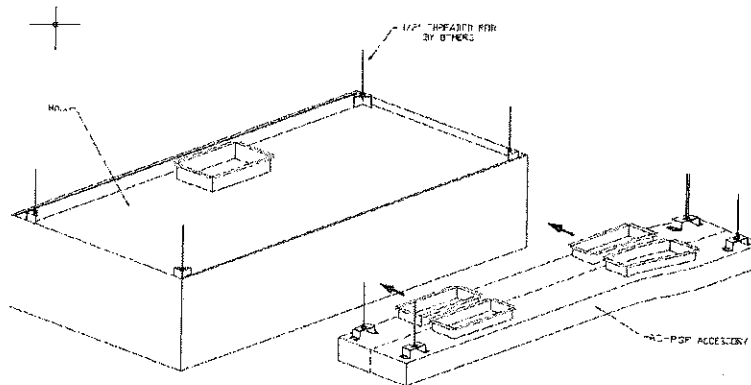

Figure 13A
6. Move the AC-PSP into position as indicated by the project submittal **drawings**; lining up the top edge of the AC-PSP with the top edge of the hood. Remove the protective plastic coating from the back of the AC-PSP. **See Figure 13a and 13b.**